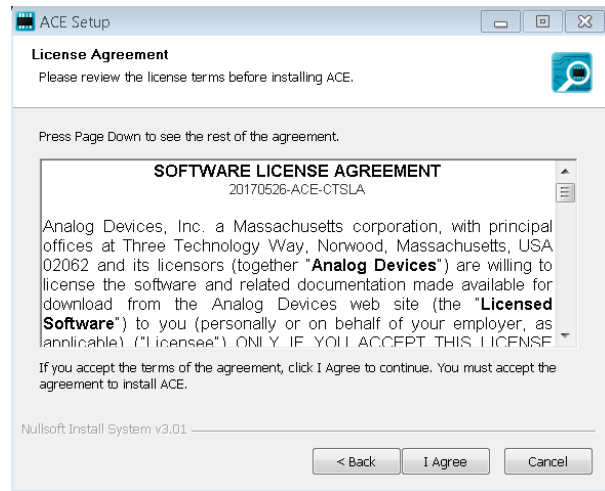

Figure 3. License Agreement
5. Read the software license agreement and click **I Agree** (see Figure 3).